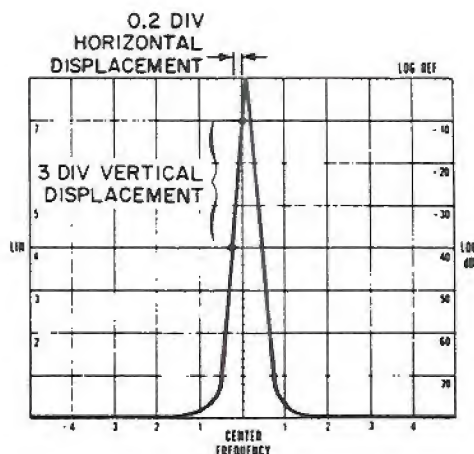

Figure 5-4. Demodulation Sensitivity Measurement
13. Refer to Figure 5-4. Tune FINE TUNE so that the upward slope of the display intersects the CENTER FREQUENCY graticule line one division from the top.